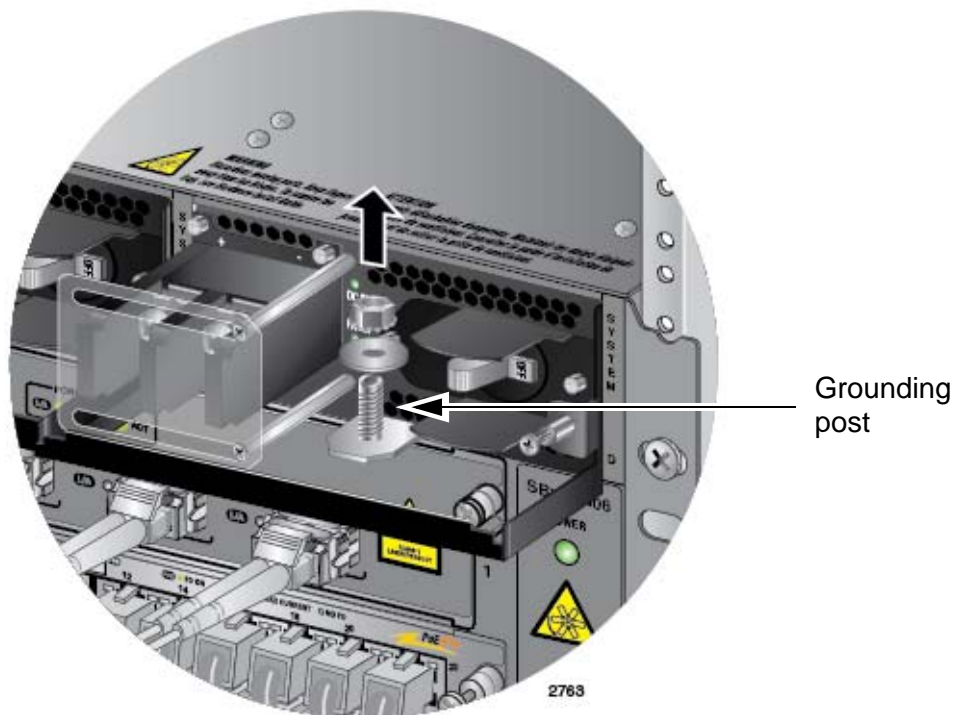

Figure 116. Removing the Nut and Washer from the Grounding Post
3. Use an 8 mm wrench to remove the grounding post nut and washer, shown in Figure 116, from the power supply.
2. Use an 8 mm wrench to remove the grounding post nut and washer, shown in Figure 116 on page 178, from the grounding post on the power supply.